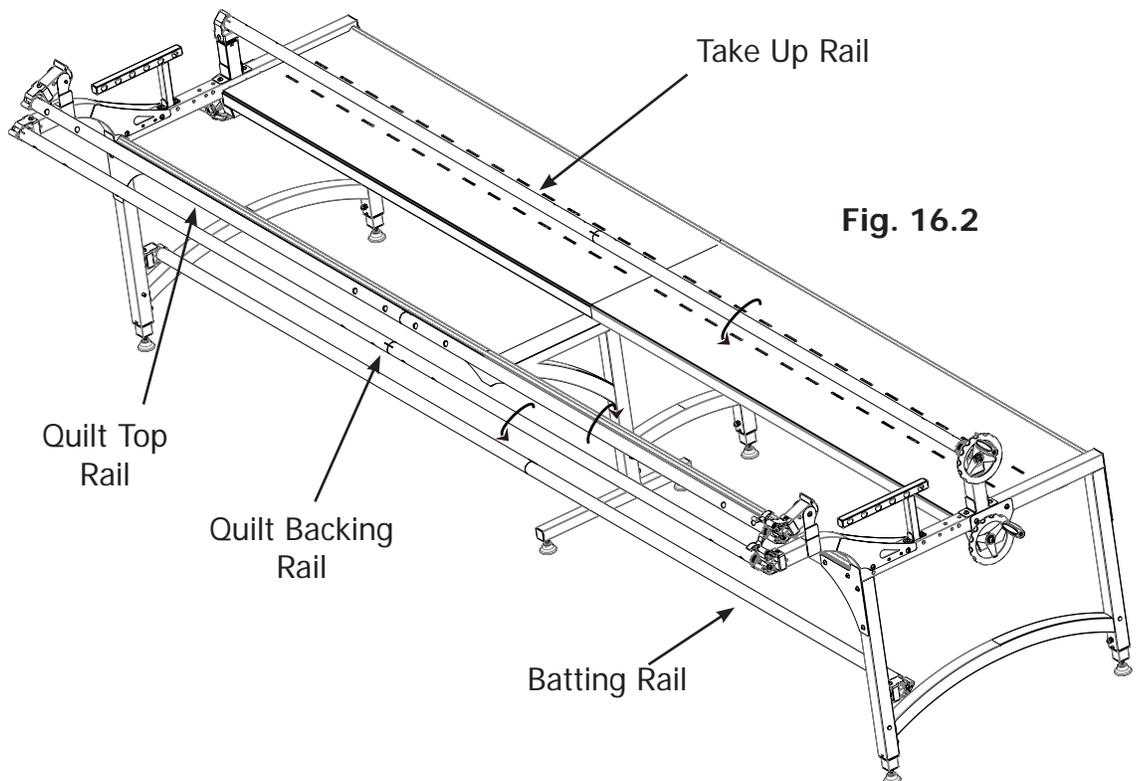

Fig. 16.2
16-2: The (2) Fabric Rail Assembly with Ratchet go on the rail holders on the front of the frame with the ratchets going on the right side of the frame, as shown in Fig. 16.2.
16-3: Spin the Rails, as shown in Fig. 16.2, to make sure the ratchets are working.